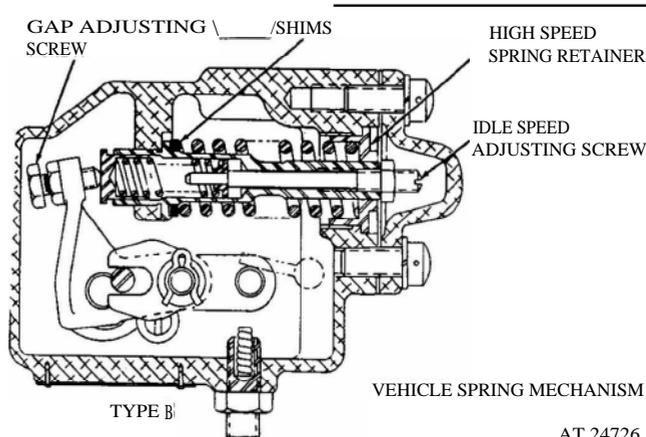

Figure 4. Governor spring assemblies.
### Adjust Maximum No-Load Engine Speed TYPE B GOVERNOR SPRINGS (fig. 4):
a. Remove the high speed spring retainer, high speed spring, and **plunger** assembly (fig. 4).